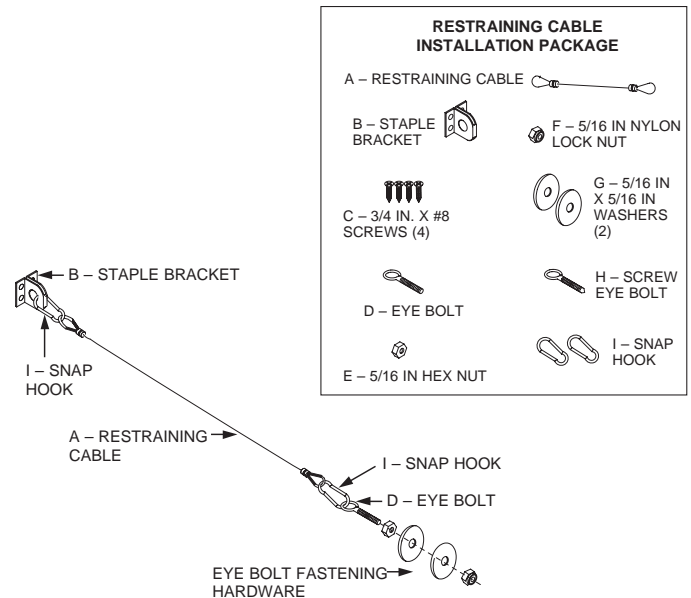

FIGURE 5-13
7. Attach one of the snap hooks (included in the Restraining Cable package) on the end of the Restraining Cable to the wall bracket and the other snap hook to the eye-bolt (See Figure 5-13). After snap-hooking the assembly, seal the Restraining Cable Loops to the wall bracketry and appliance connection hardware with Lead Wire Seal (Part No. 197).